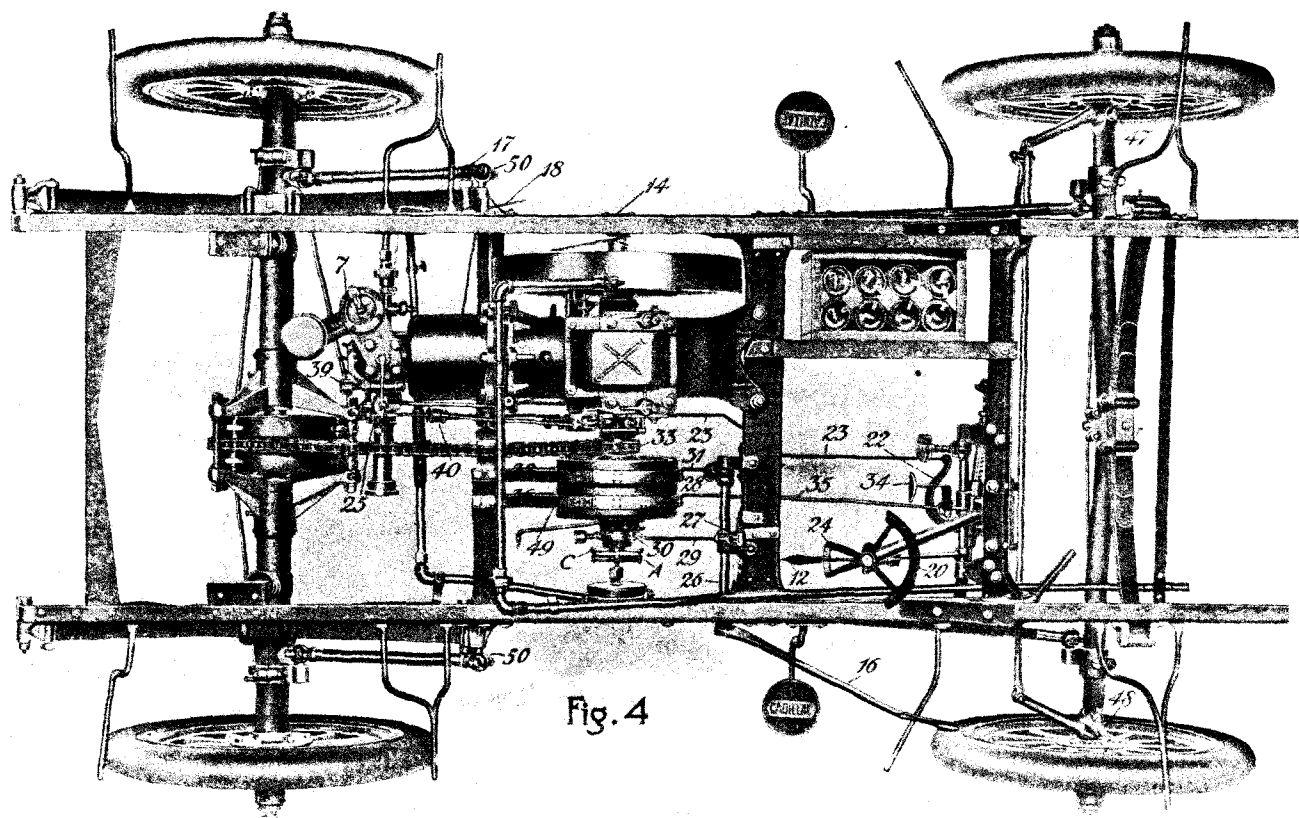

Fig. 4
Oil the transmission (40, Fig. 4) through the oil hole in the flange between it and the small driving sprocket (33) with about half pint of heavy lubricating oil at least as often as once per week. In cold weather a lighter oil should be used.
The wheel knuckles are oiled at 47 and 48, Fig. 4.
Radius rods (50, Fig. 4) should be oiled at both ends.
See that all grease cups (39, 40, Fig. 4, and 43, Fig. 4), are filled. The cups 39, 40 and 43 should be given a turn every two or three days. A small amount of powdered
will show how the throttle lever (12) just under the steering wheel (20) extends down below the floor (21) and ends in an arm (22) which is connected to the rod (23, Fig. 4) so as to move the rod (23) endways as the lever (12) is shifted in its quadrant (24). Trace the rod (23) back and it will be seen to engage the throttle cam (25) at its rear end in such a manner that the throttle cam (25) is shifted by any endwise movement of the rod (23).
Referring to Fig. 4, the most important would be the high speed clutch (30). There are two clutch rings here that do not revolve, and that bear against the clutch disc on one side, and against the adjusting nut on the other, having a race of balls at each side which should have a little oil occasionally.
The three grease cups (40 and 43, Figs 3 and 4 and 39, Fig. 4) and the rolls which operate the inlet valve at (25) should have occasional attention. This makes a total of only nine places to oil on both the motor and the transmission gears. Remember that a properly oiled and adjusted motor may be turned by one finger against a spoke of the fly-wheel.
Nos. 10 and 11. Always be sure that you have water in the circulating system, and if the weather is cold see that the pump is not frozen, by trying the pump driver (A, Fig. 4) and see that the pump spindle turns freely **before** starting the motor. Otherwise, if you have no anti-freezing mixture, and the pump has frozen, you may break the blades inside loose from the shaft. Of course some mixture to prevent freezing **must** be used in cold weather.